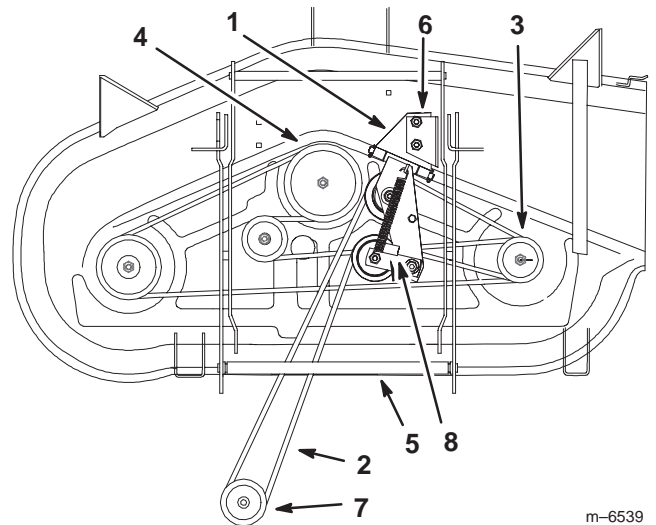

Figure 7
- Route the drive belt onto the top pulley of the double pulley mounted on the tractor's left side axle (Figures 7 and 12).
- Slide a large screwdriver or a pry bar, into the tube welded on the flat idler pulley arm and pull forward to release the tension and at same time route the drive belt around the flat idler pulley (Fig. 7).
- Be sure the belt is routed properly before starting the mower (Fig. 7).